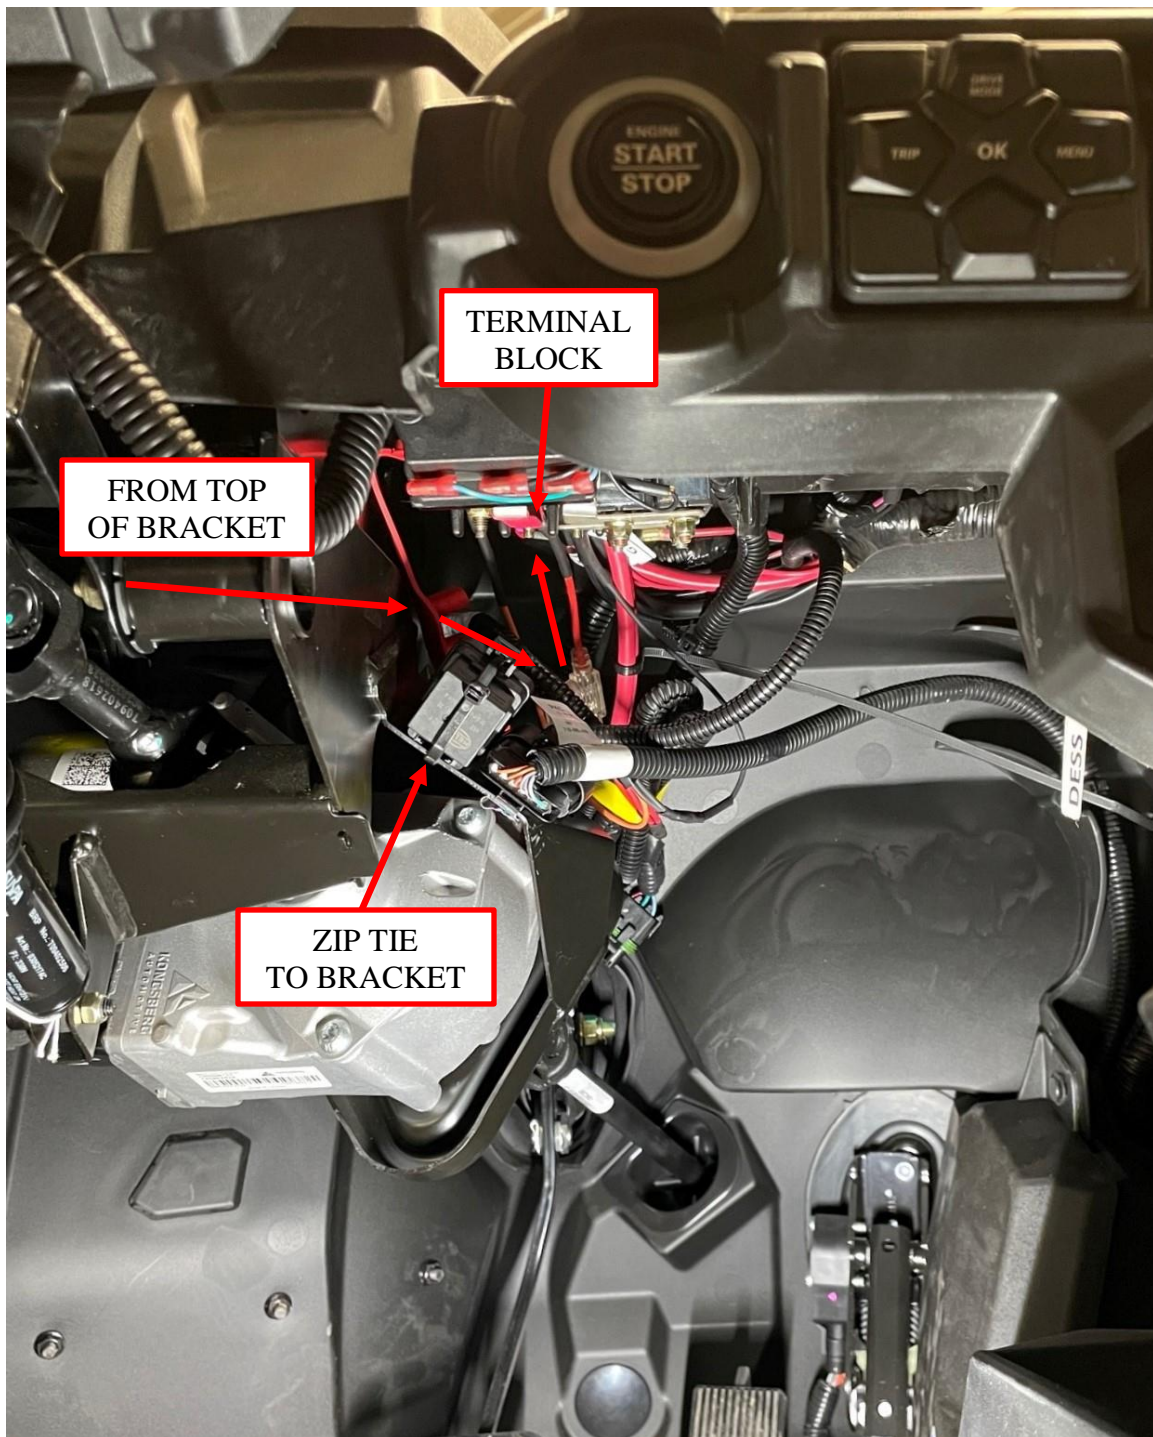
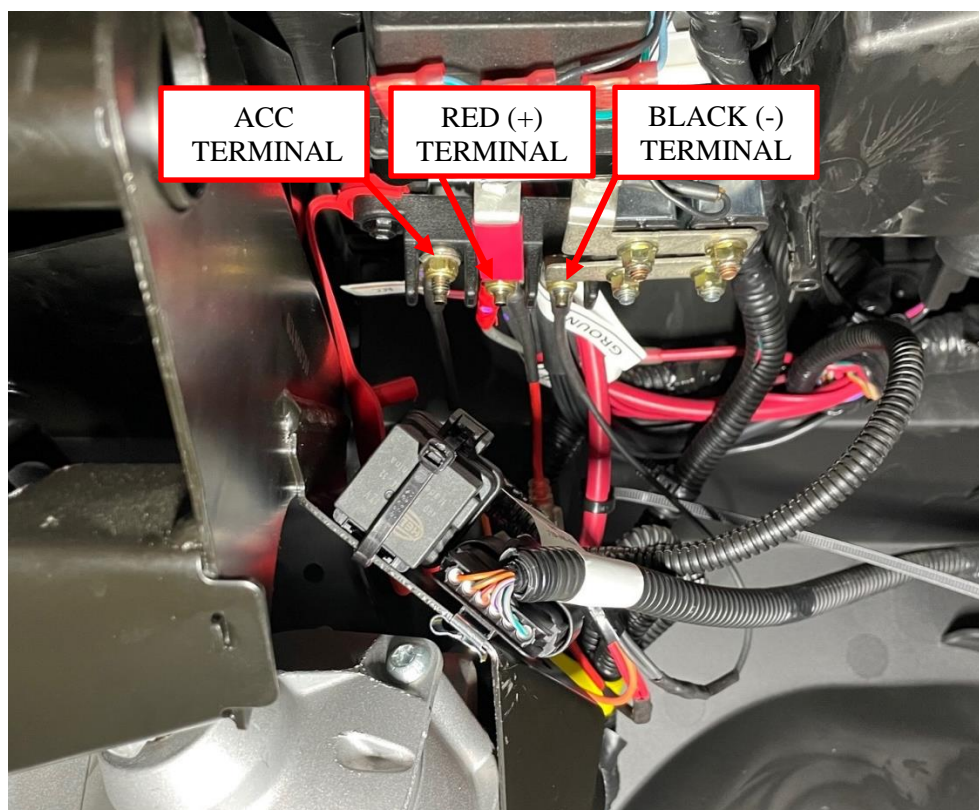

Figure 16: Route the chassis harness to connect the terminals.
Figure 17: Connect the harness to the terminal posts.
11. Route the chassis harness around the top of the power steering bracket to connect the harness terminals to the terminal block. Install the chassis harness reusing the factory nuts on the terminal posts. Be sure to keep any existing wires on the proper terminals while adding the new wires on top. Connect the orange ignition wire to the accessory terminal post, the black ground wire to the black (negative) terminal post, and the red power wire to the red (positive) terminal post. Zip tie the harness relay to the power steering bracket. See Figure 16 and Figure 17.